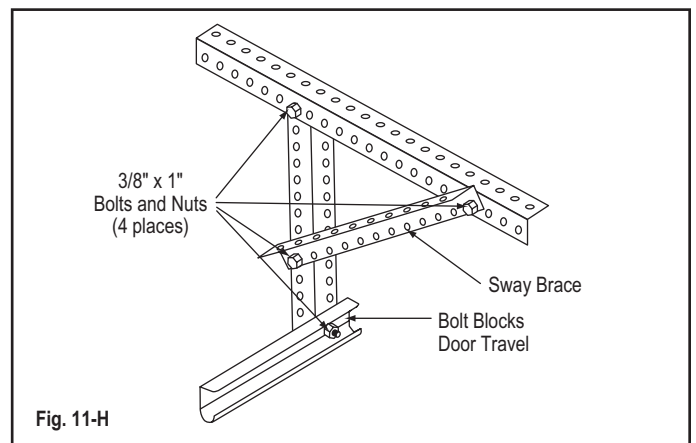

Fig. 11-H
Step 11- 8, Continued: Adjust the position of the tracks if the squareness distances are not within 1/2" of each other. Horizontal track can be out of level up to 1" from front jamb to rear track hanger. (Fig. 11-I)